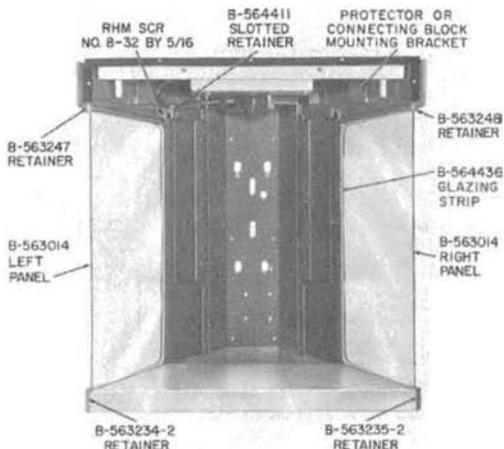

Fig. 19—KS-19426, List 1 Housing Showing Installation of Panels
- 3.59 If station protection is required, install 123A1A protector on the bracket provided in the rear of the housing (Fig. 19) and terminate station wiring on protector.